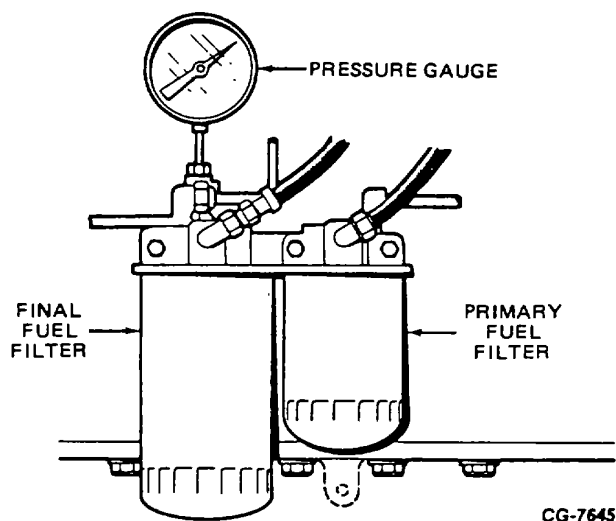

Figure 18a. Fuel Supply Pump Pressure Test (With Vent Plug)
- Measure supply pump pressure at high idle RPM, no load (Figure 18a).